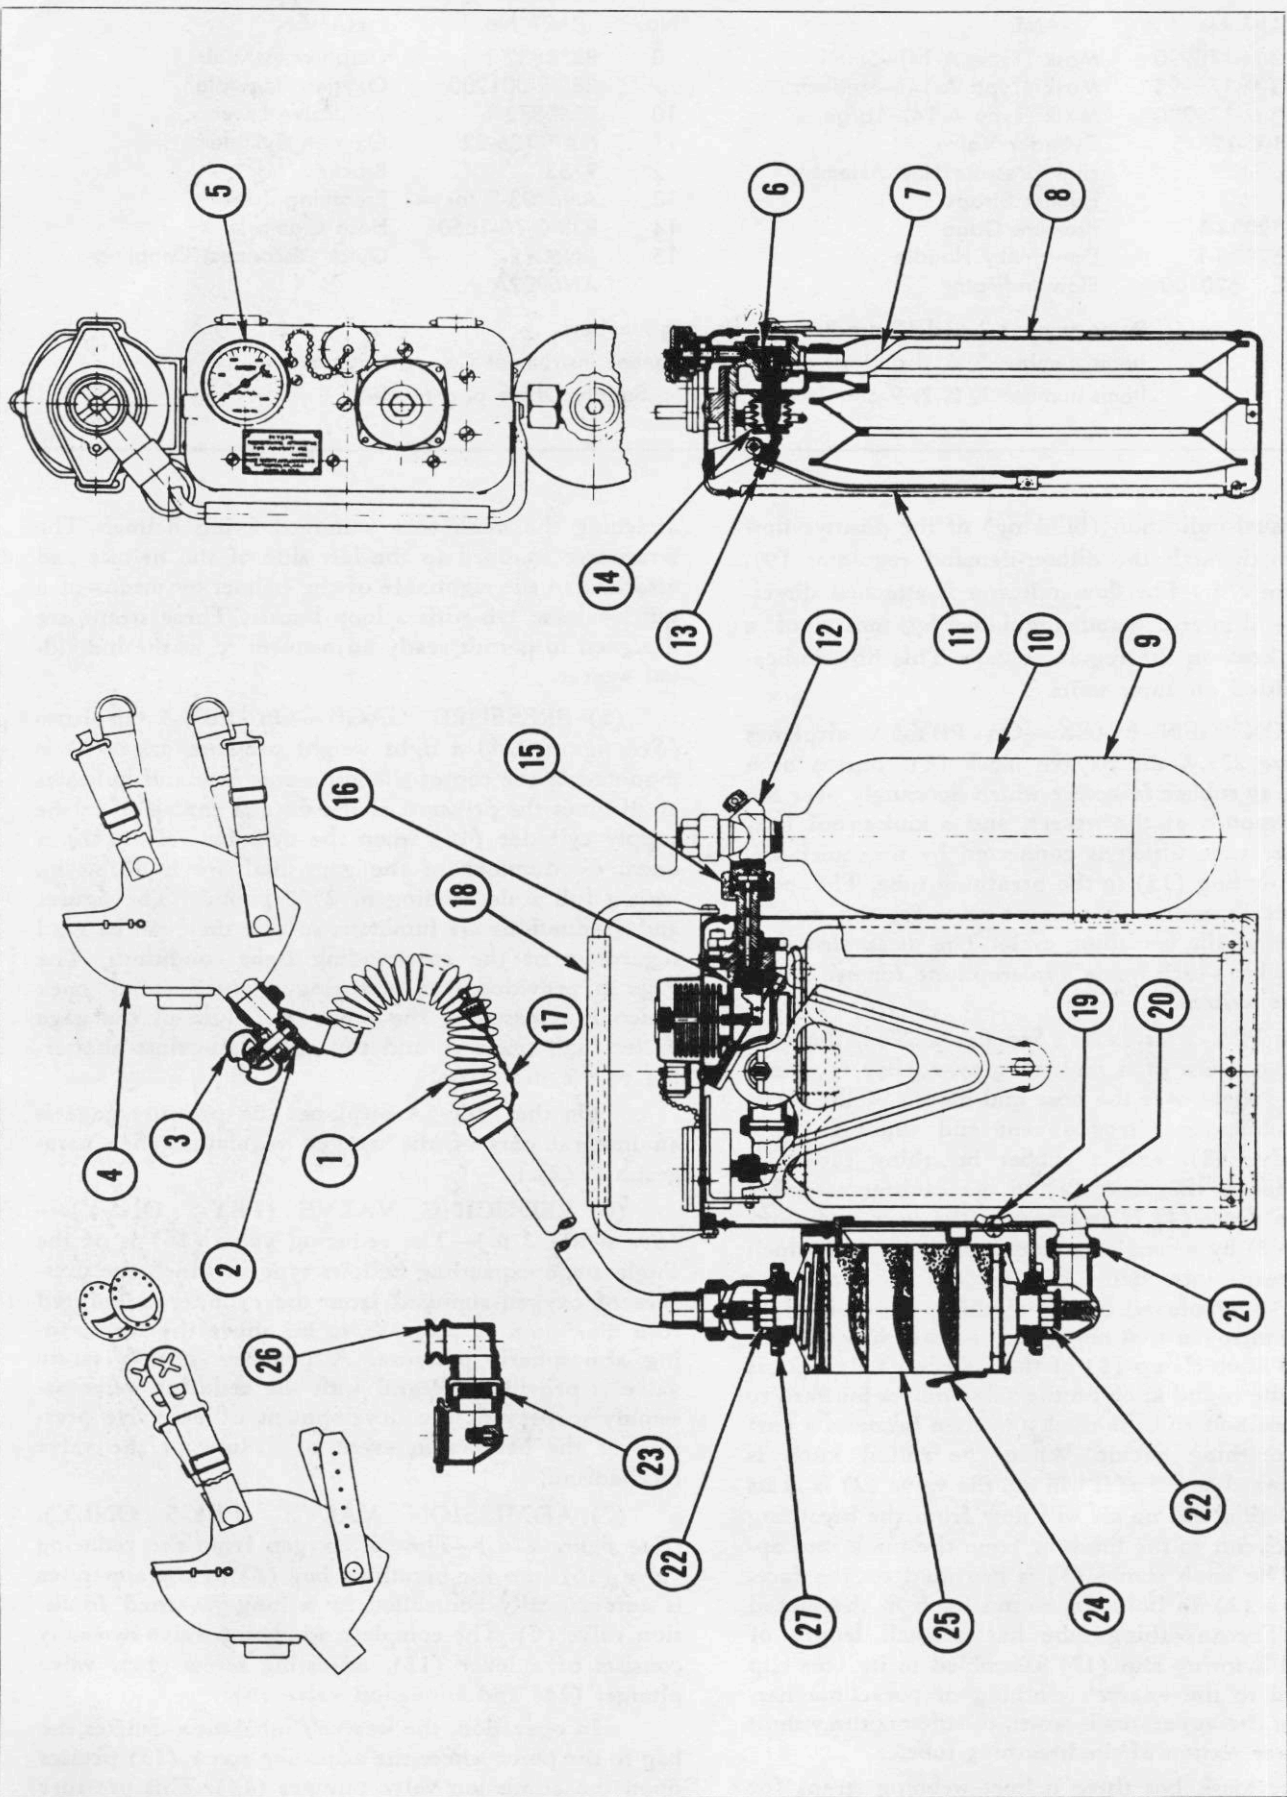

Figure 276—Portable Rebreather Oxygen Equipment (PBY-5 Only)
The oxygen equipment carried in the PBY-5 airplane (See figure 276.) consists of two portable individual supply type rebreathers which have their own integral supply system, pressure gages, and reducer valves. Mountings for these rebreathers are provided at the pilot's, copilot's and engineer's stations. Three spare oxygen bottles and eight spare canisters are stowed in the miscellaneous gear locker which is located on the starboard side aft of bulkhead 4. This apparatus is designed to supply the user with respirable air that contains the high percentages of oxygen required for high altitude service. The apparatus operates independently of the external atmosphere. That is, the wearer breathes oxygen in a closed circuit by inhaling from a flexible breathing bag and in turn exhaling through a chemical purifier back into the breathing bag, from which the unused oxygen is available for rebreathing. The chemical purifier removes the exhaled air. As the oxygen supply from the breathing bag is used up, an equivalent amount will be replenished in the breathing bag by automatic admission of oxygen
On PBV-5 airplanes (See figure 276), the oxygen mask consists of a molded gray rubber facepiece which fits snugly over the nose and mouth of the wearer, a combination nitrogen vent and shut-off (facepiece) valve (2), and a rubber breathing tube (1) which connects the mask (4) to the canister assembly (25). The mask (4) is attached to the vent and shut-off valve (2) by means of a quick opening clamp which prevents ready interchange of mask (4). The facepiece valve (2) is employed in the cleaning out process of any air or nitrogen that may be in the breathing circuit. When the knob clamp (3) of the facepiece valve (2) is released, the round knob on the valve moves outward to its open position and the mask (4) then becomes a part of the breathing circuit. When the round knob is pushed inward as far as it will go, the valve (2) is in its closed position and no air will flow from the breathing apparatus circuit to the mask or from the mask into apparatus. The knob clamp (3) is provided on the facepiece valve (2) to hold the round knob in the closed position. The breathing tube has a small length of chain and a spring clip (17) assembled to it. This clip is attached to the wearer's clothing or parachute harness, when the apparatus is worn, to support the weight of the lower section of the breathing tube.
(5) PRESSURE GAGE.—On PBV-5 airplanes (See figure 276) a light weight pressure gage (5) is mounted in the top of the apparatus case and indicates at all times the pressure of the oxygen contained in the supply cylinder (10) when the cylinder valve (12) is open. Graduations of the gage dial are in lb/sq in. with a full scale reading of 2500 pounds. The figures and graduations are luminous so that they can be read regardless of the surrounding light conditions. The gage is provided with a spring-mounted safety back which is released in the event of failure of the gage under high pressure and thus guards against shattering of the dial glass.
(6) REDUCING VALVE (PBV-5 ONLY).—(See figure 276.)—The reducing valve (16) is of the single stage expanding bellows type in which the pressure of oxygen supplied from the cylinder is reduced to a maximum of seven lb/sq in. above the surrounding atmospheric pressure. A pressure release safety valve is provided integral with the reducing valve assembly to prevent the development of excessive pressure in the bellows in event of failure of the valve mechanism.
(7) ADMISSION VALVE (PBV-5 ONLY).—(See figure 276.)—Flow of oxygen from the reducing valve (16) into the breathing bag (8) of the apparatus is automatically controlled by a lung-governed admission valve (6). The complete admission valve assembly consists of a lever (11), adjusting screw (13), valve plunger (14) and admission valve (6).
(8) BREATHING BAG (PBY-5 ONLY). (See figure 276.)—The breathing bag (8) is a stockinette-reinforced rubber storage reservoir for the oxygen supply. Its bellows design permits free respiratory action with a minimum resistance. The wearer exhales and inhales oxygen to and from the breathing bag. The bag is kept inflated by the automatic action of the admission valve (6).
(9) CANISTER (PBY-5 ONLY). (See figure 276.)—The canister (25) contains a chemical that fulfills the two-fold purpose of evolving oxygen upon contact with moisture in the exhaled breath of the wearer, and absorbing the exhaled carbon dioxide. This canister is easily replaceable. During storage, it is kept tightly sealed with rubber lined metal tear-off caps to prevent deterioration of the chemical. The canister has an opening on each end, each of which is provided with a soft, molded rubber gasket to make a gas tight connection between the canister (25) and the sealing valve (22) mounted in the canister holder assembly. Both ends of the canister are identical and interchangeable, so that no detailed positioning is necessary when inserting the canister in place.
(10) CANISTER HOLDER (PBY-5 ONLY). (See figure 276.)—The canister holder (27) attached to the side of the apparatus case is provided with a quick acting toggle clamp (24) which securely holds the canister in place and permits ready replacement of spent canisters. Automatic sealing valves (22) are provided in the upper and lower chambers of the can-
(11) APPARATUS CASE (PBY-5 ONLY). (See figure 276.)—The apparatus case encloses and protects the breathing bag (8), admission valve mechanism (6) and reducing valve (16), and provides a mounting for the canister holder (27) and oxygen cylinder (10). A carrying handle (18) having a rubber grip is hinged to the top of the apparatus case and permits carrying by hand. When the apparatus is in use, the handle may be turned out of the way. Two types of body harnesses are furnished with each apparatus. One type consists of an adjustable shoulder strap and the other an adjustable waist strap. Each harness is made of one and three quarter inch black webbing and has a suitable snap fastener assembled to each end.
(2) To assemble PBY-5 oxygen equipment. (See figure 276.)
(2) On PB-5 airplanes check the rebreather equipment as follows: (See figure 276.)
(3) To use oxygen unit on PB-5 airplanes: (See figure 276.)